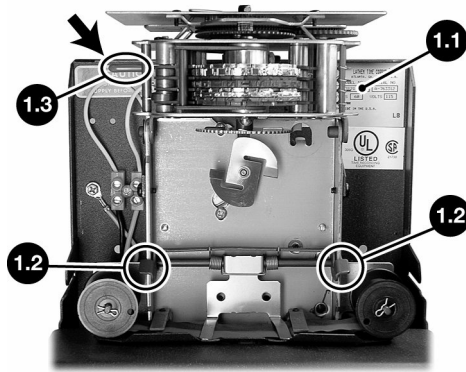

Figure 1
Example: Since the fourth digit in the model number 2104 is a "4", it will print with 00-59 minutes and 00-23 hours (see table above). The model number is located on the Label 1.1 positioned as shown in Figure 1.
4. Press either side of the **Type Section Headlock** - **Figure 1, 1.2** and pull upward on the lower part of the Clock Face until the Type Section locks in the up position as shown in **Figure 1**. Note position of the Overthrow Lever and the Setting Wheel.
5. Press the red **Overthrow Lever** - **Figure 1, 1.3** away from you until it clicks. This releases the wheels allowing them to turn.